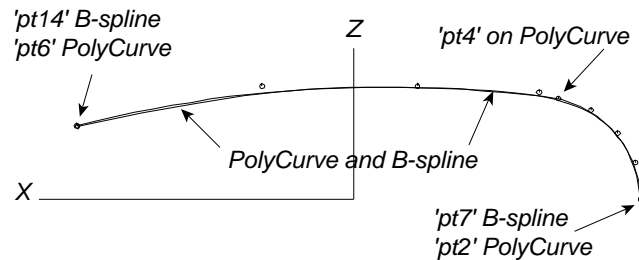

Fig. 8
- 11 **Continue clicking** and creating a Quick Spline. Try to match the PolyCurve with your B-Spline. Use as few points as possible. Be sure not to place a point if the cursor changes to . (Doing so would put one of the spline points on the PolyCurve). Finish by double clicking near the end of the PolyCurve. If necessary drag the points around to closely approximate the PolyCurve. It doesn't have to be perfect. How many points did you use? You probably don't need more than 7 or 8. (Fig. 8)